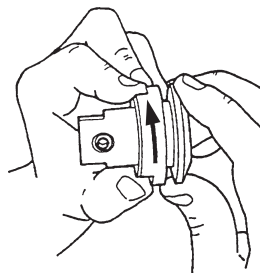

Figure 24
- a. Remove the Arbor Nut by turning it clockwise, as seen in Figure 24. Hold the Arbor with the threaded part pointing to the left.